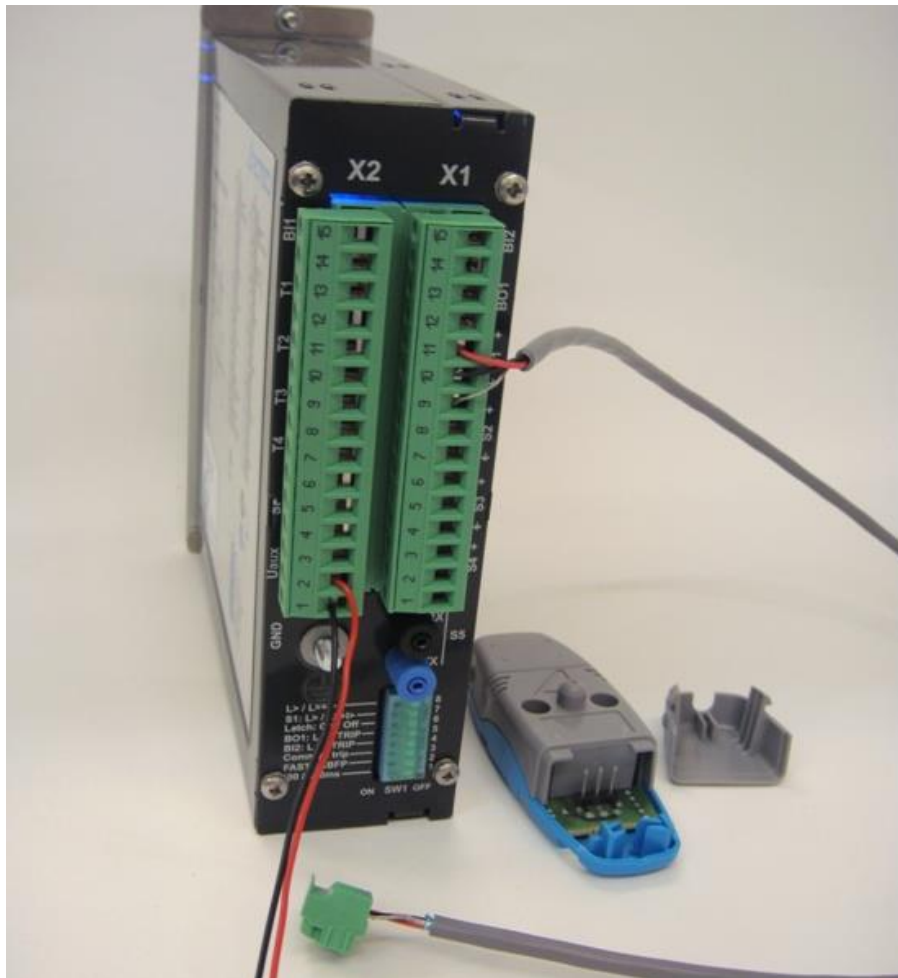

Figure 4-8: AQ01 sensor connection step 3.
3) Connect the other end of the cable to a sensor channel on the AQ101 or AQ110P unit. See Figure 4-8.